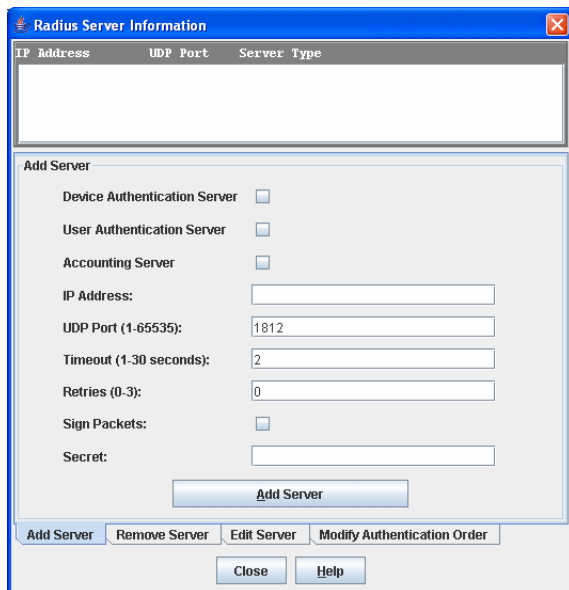

Figure 22 RADIUS Server Information dialog—Add Server tab page
2. Click the **Add Server** tab in the Radius Server Information dialog shown in Figure 22.